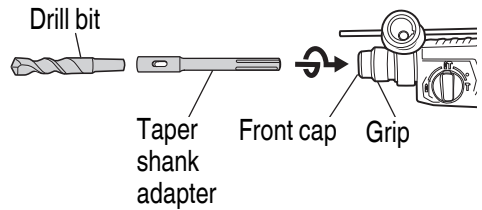
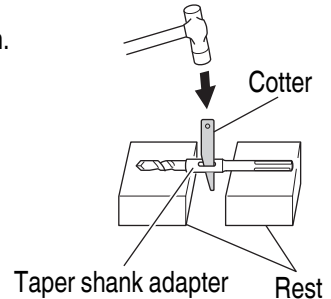

Fig. 15
Fig. 16
- (1) Mount the taper shank adapter to the rotary hammer (Fig. 15).
- (2) Mount the drill bit (taper shank) to the taper shank adapter (Fig. 15).
- (3) Turn the switch ON, and drill a hole in prescribed depth.
- (4) To remove the drill bit (taper shank), insert the cotter into the slot of the taper shank adapter and strike the head of the cotter with a hammer supporting on a rests (Fig. 16).